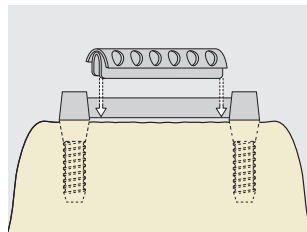
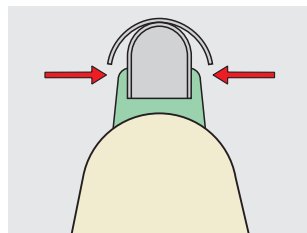
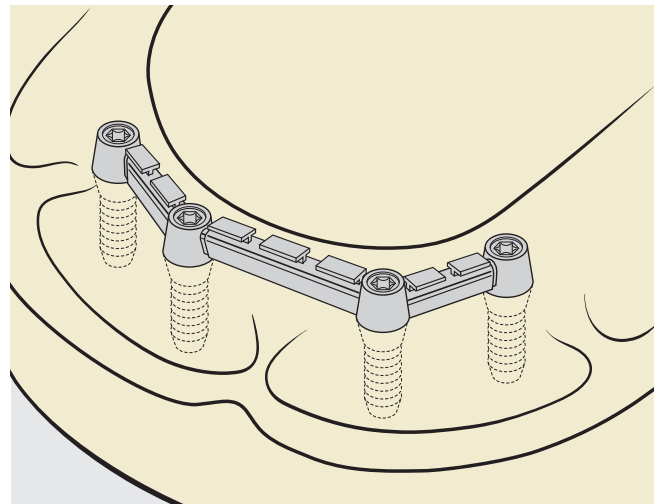

Fig. 6
Fig. 7
Fig. 8
The bar sleeve is adjusted throughout the length of the bar to achieve maximum possible retention force (Fig. 6). Remove flash inside and outside. So that the bar sleeve can be securely anchored in the plastic, it must not be shorter than 5 mm. Mount bar sleeve onto male part, then block out the space between bar and gingiva as well as implant caps or root caps. Half of the lamella height should remain free-moving. This allows access for the activation instrument and reduces premature wear (Fig. 7). The retention wings of the bar sleeve can only be bent once and with extreme caution in order to avoid breaking them off. Polymerize bar sleeve into the denture or into the cast reinforcement.
The bar sleeve is adjusted throughout the length of the bar to achieve maximum possible retention force (Fig. 6). Remove flash inside and outside. So that the bar sleeve can be securely anchored in the plastic, it must not be shorter than 5 mm. Mount bar sleeve onto male part, then block out the space between bar and gingiva as well as implant caps or root caps. Half of the lamella height should remain free-moving. This allows access for the activation instrument and reduces premature wear (Fig. 7). The asymmetric retention of the bar sleeve can be ground back, e.g. for insertion of a cast reinforcement (Fig. 8). Polymerize bar sleeve into the denture or bond into the cast reinforcement.
The bar sleeve is adjusted throughout the length of the bar to achieve maximum possible retention force (Fig. 6). Remove flash inside and outside. So that the bar sleeve can be securely anchored in the plastic, it must not be shorter than 5 mm. Mount bar sleeve onto male part, then block out the space between bar and gingiva as well as implant caps or root caps. Half of the lamella height should remain free-moving. This allows access for the activation instrument and reduces premature wear (Fig. 7). The retention wings of the bar sleeve can be ground back only for sectioning. Polymerize bar sleeve into the denture or bond into the cast reinforcement.
9. Block out any undercuts on the bar and the adjustable lamellae of the female part (Fig. 7)